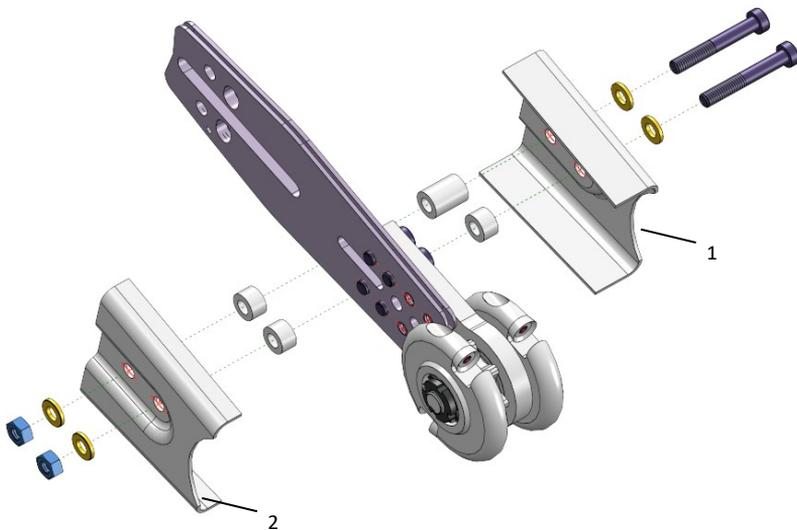

Fig. 8. Mounting the protective plates
- To mount the protective plates, first insert two M6 cap screws with washers into the left protective plate (1- Fig 8). The spacer sleeves can then be placed on the inside of the protective plate. The longer sleeve is placed on the screw which is closest to the saw. The protective plate with the screws can then be connected to the trough cutter through the holes on the bearing block and the guide bar. After mounting the two short spacer sleeves and placing the right-hand protective plate (2- Fig 8), tighten the hexagon nuts. (nut SW 10, screw SW 5)